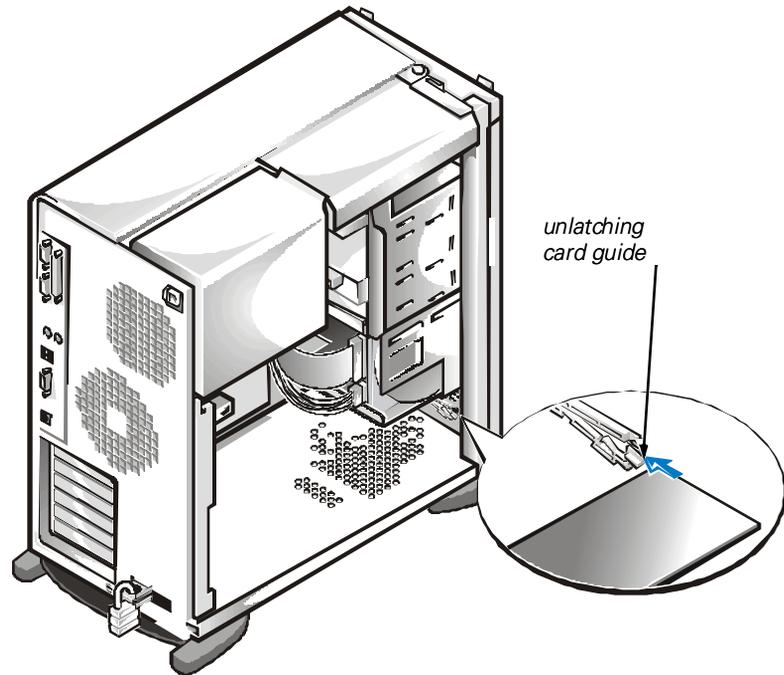

Figure 8-3. Unlatching the Card Guide
3. Unlatch the card guide as shown in Figure 8-3.